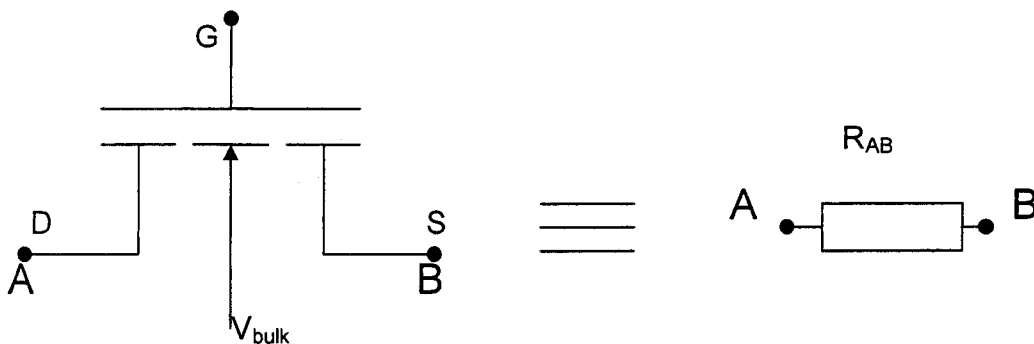

Figure 4.1
4. (a) Under what operating conditions does the MOSFET of Figure 4.1 realise a linear floating resistor between terminals *A* and *B*? Show that under these conditions the equivalent resistance  $R_{AB}$  can be approximated by
- (b) Discuss three sources of non-linearity in the single MOSFET resistor realisation of Figure 4.1 and suggest one suitable circuit design to help eliminate one or more of these non-linear terms. Show all necessary circuit analysis to confirm your design.